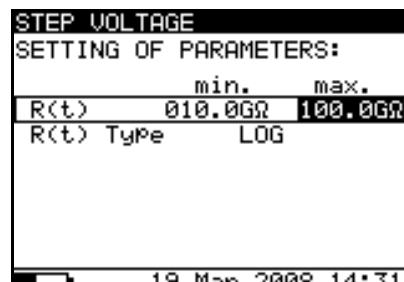

Fig. 37: Setting of graph R(t) parameters
7. The Timer value could be very long (up to 150 minutes), so the special automatic decimation algorithm (LOG) is use to write the Graph R(t) at display (see Fig. 37)